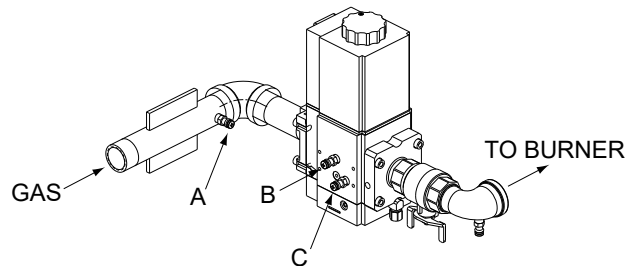

Figure 53. Gas Pressure Measurement Locations
2. Attach (1) 12" scale manometer to an upstream bleedle valve on the gas supply pipe to the heater (Measure point "A" in **Figure 53**).
3. Attach (1) 24" scale manometer to the manifold pressure tap located near the shutoff valve downstream of the firing valve (Measure point "C" in **Figure 53**).
4. Attach (1) 12" scale manometer on the fan suction pressure hose.